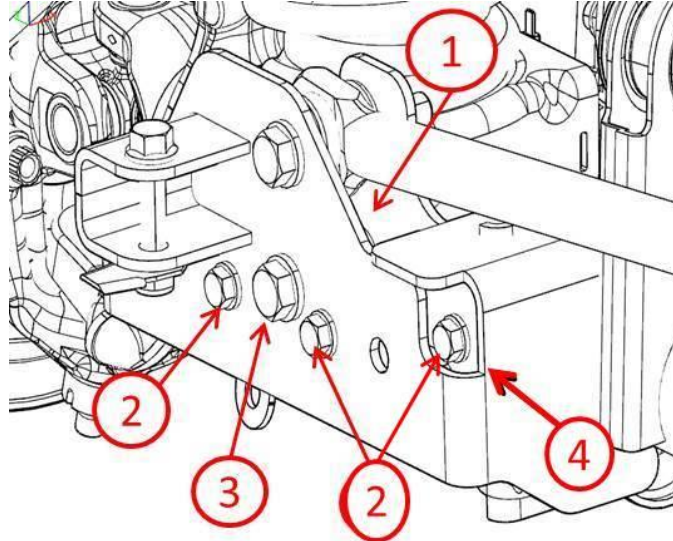

**Fig. 1 Crush Sleeve**
9. Install the provided new crush sleeve (1) in the kit and slide in between the production axle bracket and the new track bar bracket (Fig. 1).